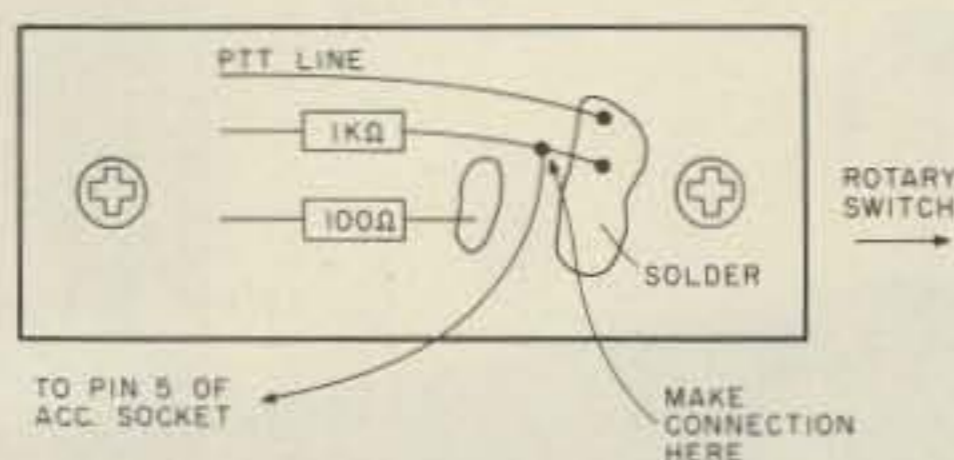

Fig. 6. PTT line connection procedure (located on the back side of the front panel).
11. Connect a wire from the push-to-talk wire to pin 5 of the accessory socket, as shown in Fig. 6. Connection is recommended at this point, to avoid disassembly of the front of the radio to get to the wire.